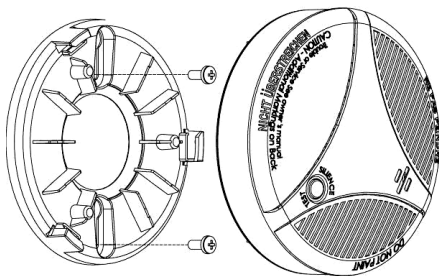

Fig. 9: Mounting the Mounting Bracket
- Line up the slot in the mounting bracket with the slot in the Smoke detector. Push the Smoke detector onto the mounting bracket and turn it clockwise to secure. Gently pull the Smoke detector to ensure it is securely attached to the mounting bracket, shown in **Fig. 9**.